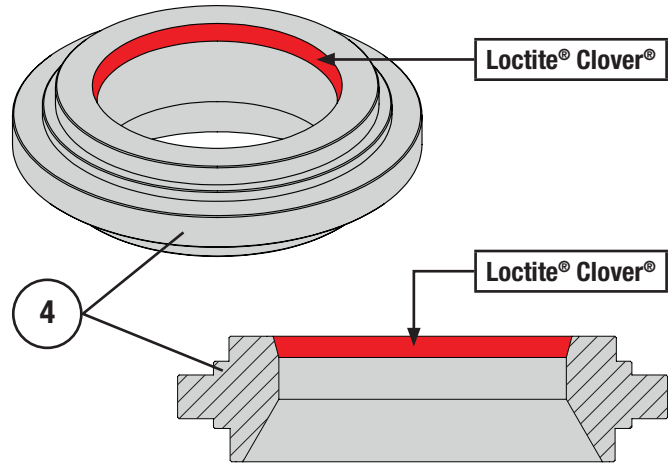

Figure 15 Lapping Compound Application Area
- 4 Do not install any plug seals into the valve plug (Key 3). Apply fine grit Clover® compound to the seating surface of the seat ring (Key 15) as shown in Figure 15. Install the valve plug/stem assembly (Keys 3, 4, 5) into the valve. Mark the position of the plug/stem assembly using the marker. **CAUTION:** Be very careful when applying the lapping compound, lapping compound can easily damage parts.